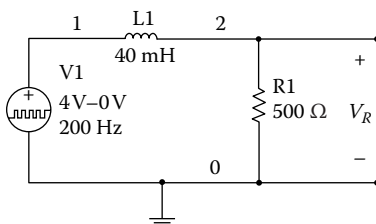

FIGURE P3.3
Problem 3.3 For the circuit shown in Figure P3.3, the input square wave has a frequency of 200 Hz, and the peak-to-peak value of the square wave is 0 to 4 V with offset voltage of 2 V. (1) Use the Analog Discovery board to obtain the output signal. (2) Measure the time constant of the circuit. (3) Compare the measured time constant with the theoretically calculated value.